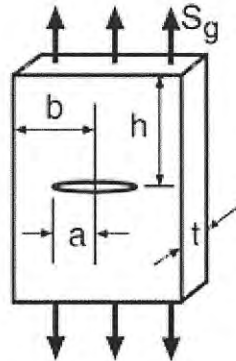

Figure Q5 (b)
- (b) A centre-cracked plate made of AA 7075-T651 as shown in **Figure Q5(b)**. A zero to maximum ($R=0$) cyclic force of $P = 18.8$ kN is applied causing the crack to grow. Crack growth measured at various crack lengths are given in **Table Q5(b)**. For F is given
- i. Determine ΔK for each crack length and then plot a da/dN versus ΔK using log-log scale as shown in Figure Q5 b(i)